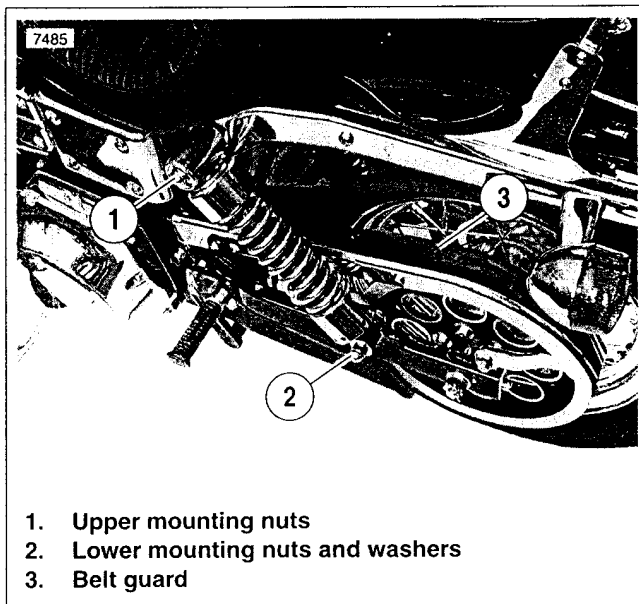

Figure 2-11. Rear Shock Mount
5. See Figure 2-11. Loosen, but do not remove, left and right **upper** shock absorber nuts (1).
6. Remove left and right **lower** shock absorber nuts and washers (2).
8. Remove belt guard (3). See 2.24 BELT GUARD.
4. See Figure 2-11. Attach rear shocks.